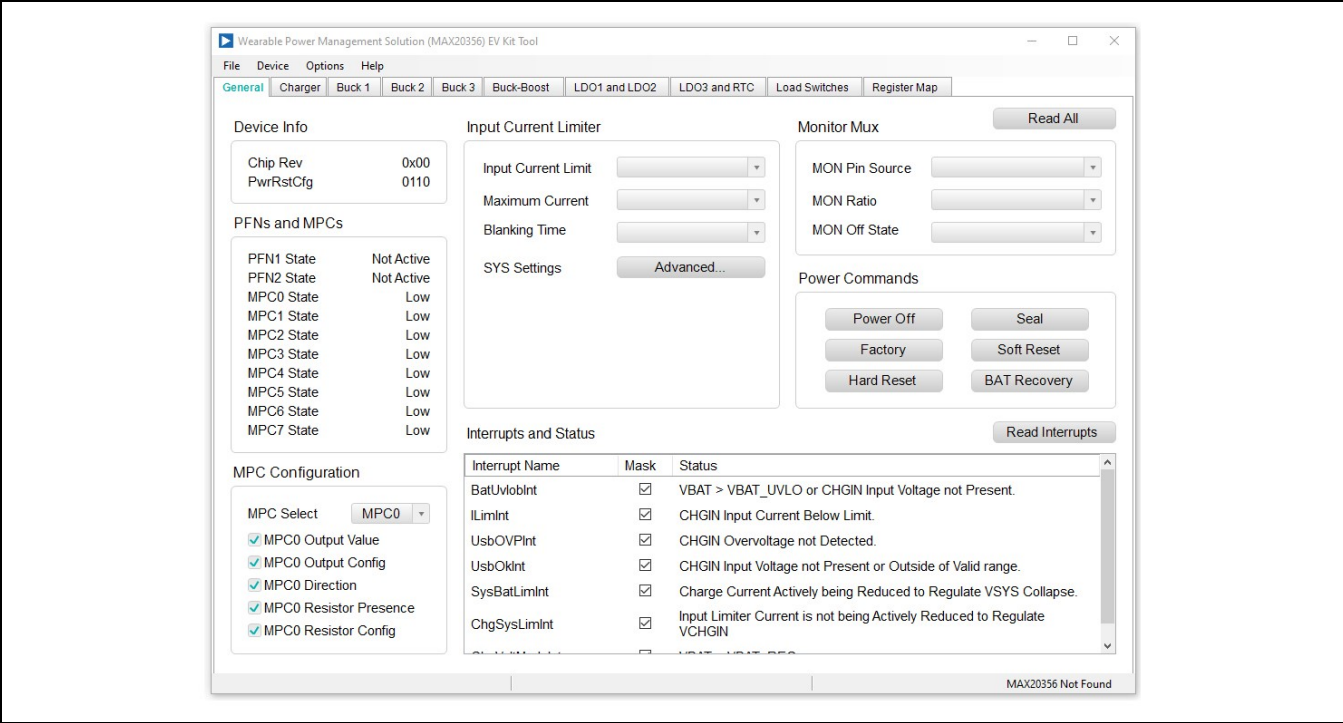

Figure 1. MAX20356 Not Found Status
10. On the computer, open the MAX20356 GUI. The status bar at the bottom shows **MAX20356 Not Found**, as shown in Figure 1. The IC is in Seal mode.